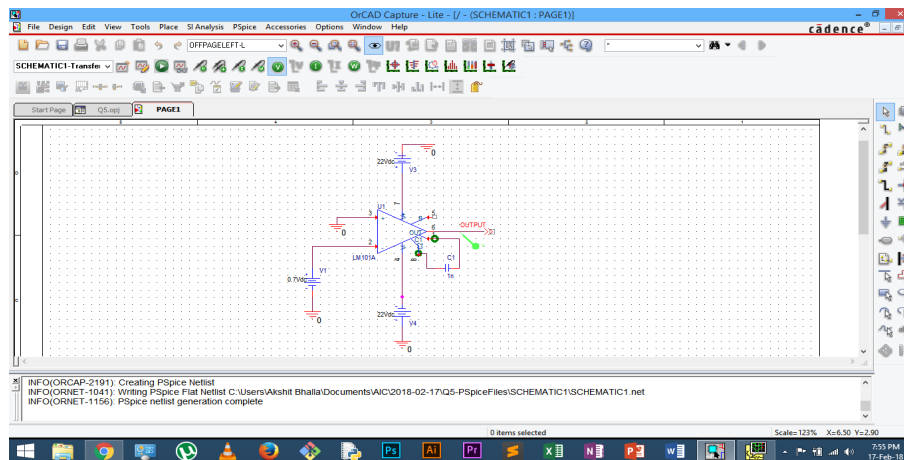

Figure 12: Circuit Diagram
- The circuit was constructed as show in Figure 12.